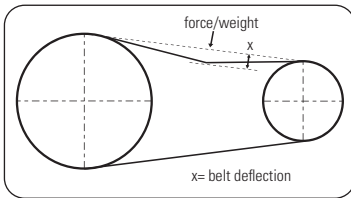

FIGURE 8.15 - BELT DEFLECTION
- Push the motor backwards until reaching the desired tension on the belt (Figures 8.15 and 8.16).
- The deflection should be $1/2"$ ($x = 12,5\text{mm}$) + 10% (Figures 8.15 and 8.16).
- When operating in places with a voltage different from the indicated, use a voltage transformer (not supplied with the product). Check the alignment of the pulleys and the belt tension before the first use (Figures 8.15 and 8.16).
A. Check the tension and the condition of the belt(s) (Figures 8.15 and 8.16).